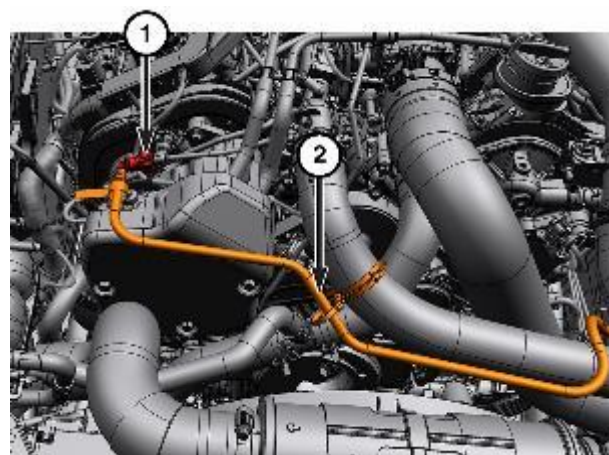

Figure 3 - Vacuum Line
6. Disconnect the quick-connect fitting (1) and set the vacuum line (2) aside (Figure 3).